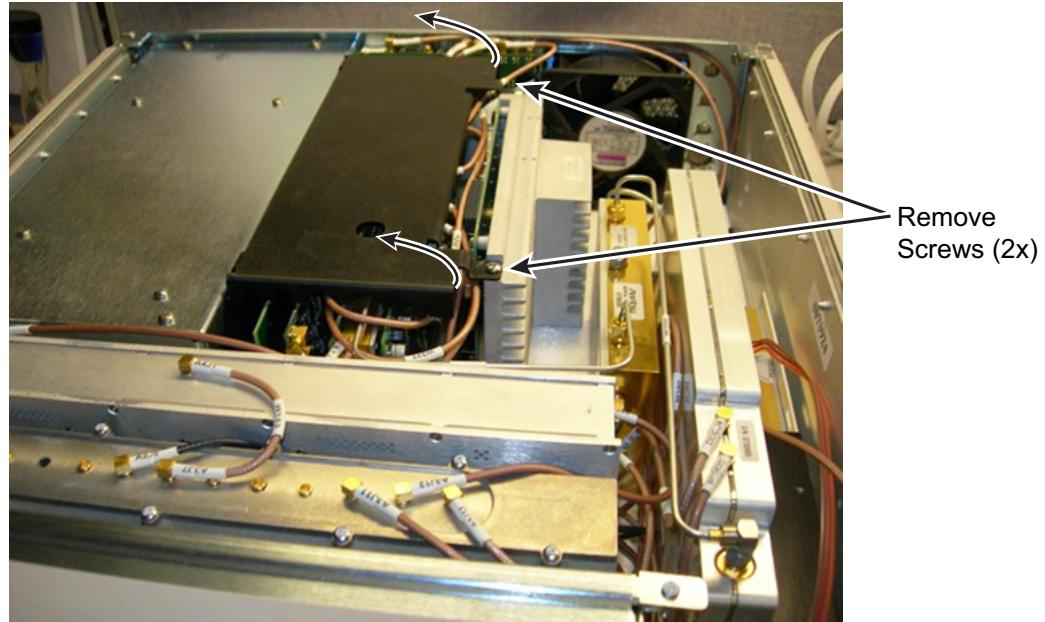

Figure 7-9. Card Cage Cover Removal
1. Use a Phillips screwdriver to remove the two screws that secure the card cage cover (Figure 7-9).
3. After ensuring the cover is properly installed, insert and tightened the two PCB cover screws (Figure 7-9 on page 7-17).